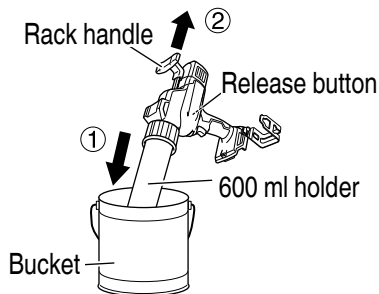

Fig. 22
- (1) Place the tip of the 600 ml holder into the container that the sealing material is in. While pressing the release button to unlock, pull the rack handle to suction up the sealing material. (Fig. 22)